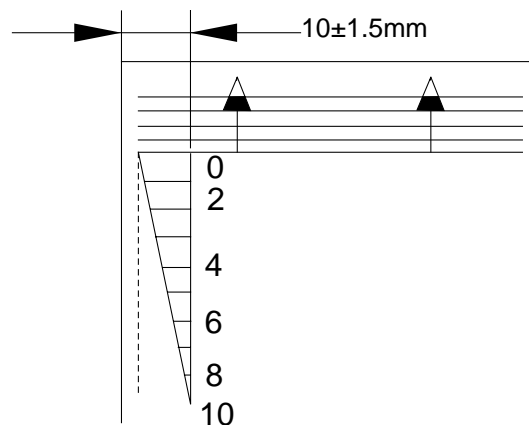

Figure 5-834
Remove the deck front cover, and loosen the two mounting screws ① on the left and the right of the deck; then, shift the latch assembly ② to the front and rear until the position is as indicated in Figure 5-834.